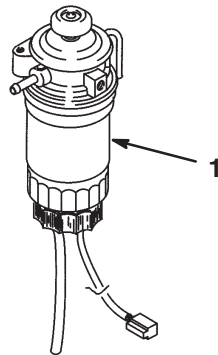

Figure 46
1. Clean the area where the filter canister mounts (Fig. 46).